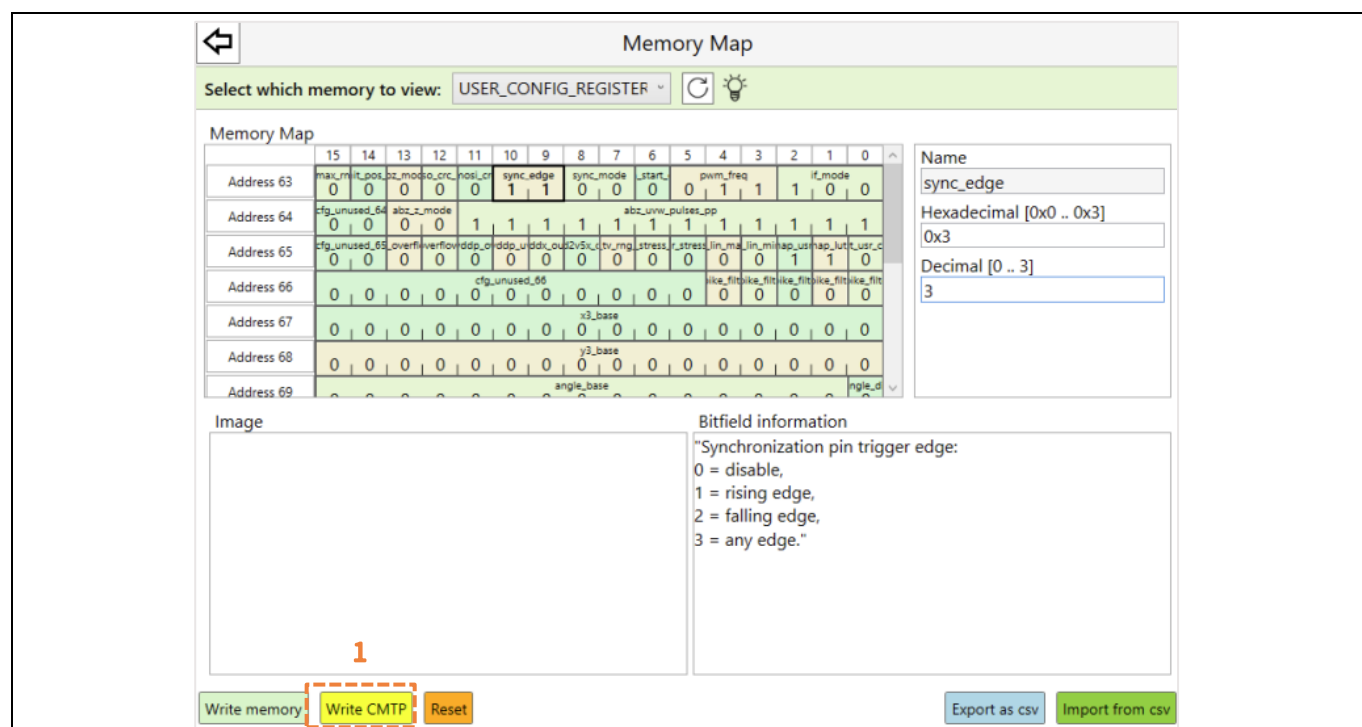

Figure 60 Software usage – USER_CONFIG_REGISTERS conversion into CMTMP
To achieve this, all configurations must be manually done by selecting the bitfield or line and writing the desired values into the control textbox or automatically loading those values via a .CSV file. The yellow **Write CMTMP** button (1) at the bottom of the view as shown in Figure 60 starts the conversion and writing process. This, however, does not fuse the entire CMTMP memory, only the blocks that contain the user configurations (That have Block ID 1). The CRC is also automatically recalculated at every step of the process.